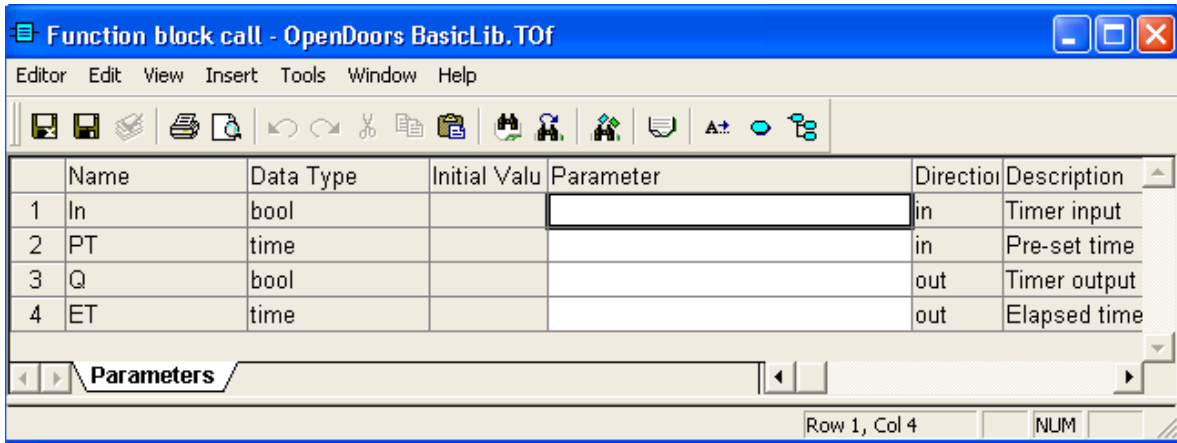

Figure 29. The Function block call editor.
- When you type the leading left-hand parenthesis ‘ ( ‘, a Function block call editor will open, see Figure 29.